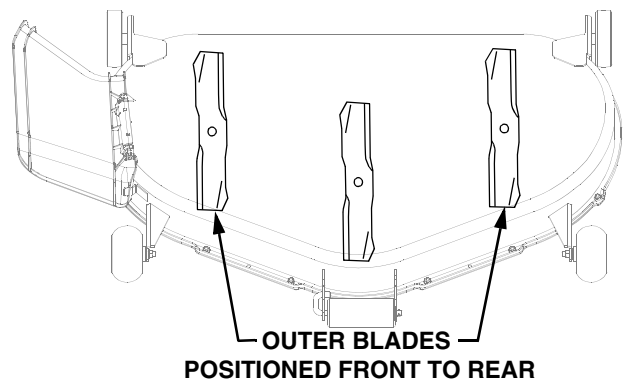

Figure 34
2. Position the mower blades so the ends of each blade point to the front and the rear of the tractor (Refer to Figure 34).